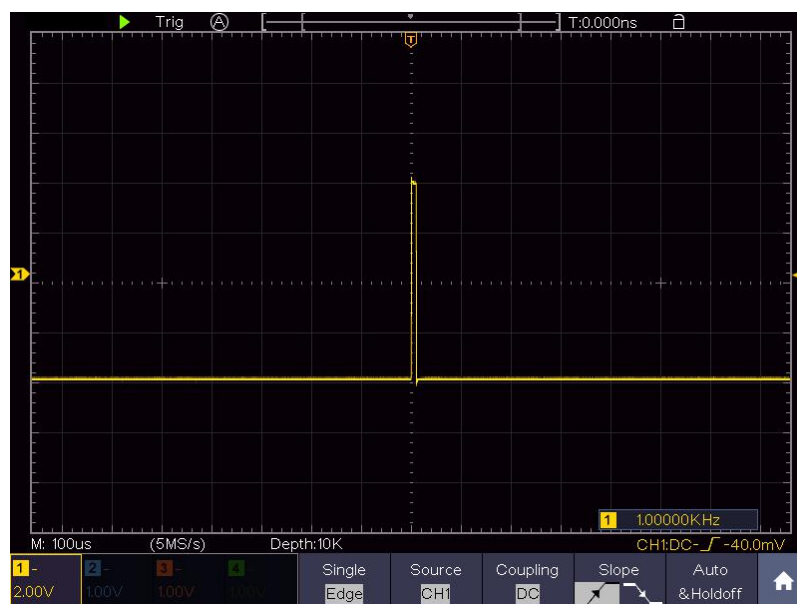

Figure 6-3 Capturing a Single Signal
- (3) Click  to call up the menu panel. Click the **Acquire** softkey on panel to
- (4) Select **Acqu Mode** in the bottom menu. Select **Peak Detect** in the right menu.
- (5) Click  to call up the menu panel. Click the **Trig Menu** softkey on panel to display the Trigger menu.
- (6) Select the first menu item in the bottom menu. Select **Single** in the right menu.
- (7) In the left menu, select **Edge** as the mode.
- (8) Select **Source** in the bottom menu. Select **CH1** in the right menu.
- (9) Select **Coupling** in the bottom menu. Select **DC** in the right menu.
- (10) In the bottom menu, select **Slope** as  (rising).
- (11) Turn the upper knob and adjust the trigger level to the roughly 50% of the signal to be measured.
- (12) Check the Trigger State Indicator on the top of the screen, if it is not Ready, push down the **Run/Stop** button and start acquiring, wait for trigger to happen. If a signal reaches to the set trigger level, one sampling will be made and then displayed in the screen. By using this approach, a random pulse can be captured easily. For instance, if we want to find a burst burr of high amplitude, set the trigger level to a slightly higher value of the average signal level, push the **Run/Stop** button and wait a trigger. Once there is a burr occurring, the instrument will trigger automatically and record the waveform during the period around the trigger time. When the **HOR** button is lit, by turning the upper knob on the front panel, you can change the horizontal triggering position to obtain the negative delay, making an easy observation of the waveform before the burr occurs (see *Figure 6-3*).